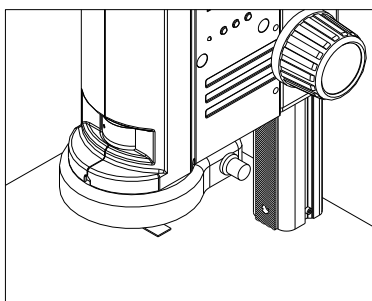

Fig. 8
- 1) Put the specimen on the base and let the observation point exactly below the microscope. (See Fig.8)